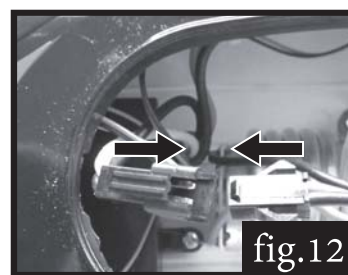

fig.12
12. Connect the wire connector for motor and cabin, fig. 12.